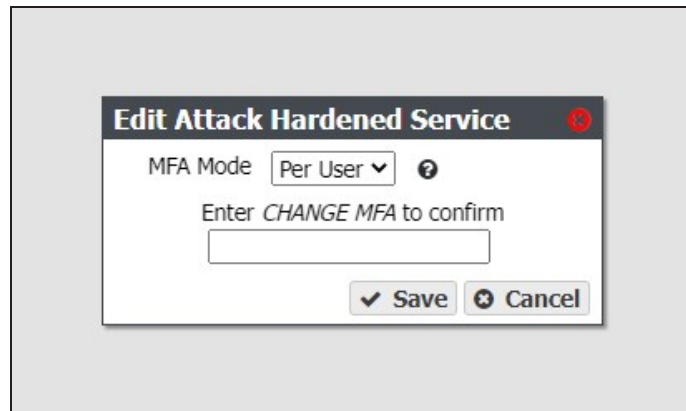

Figure 117 The Edit Attack Hardened Service dialog box.
2. Select the Attack Hardened service row, then select **Action > Edit**. The Edit Attack Hardened Service dialog box displays (see Figure 117 on page 189).